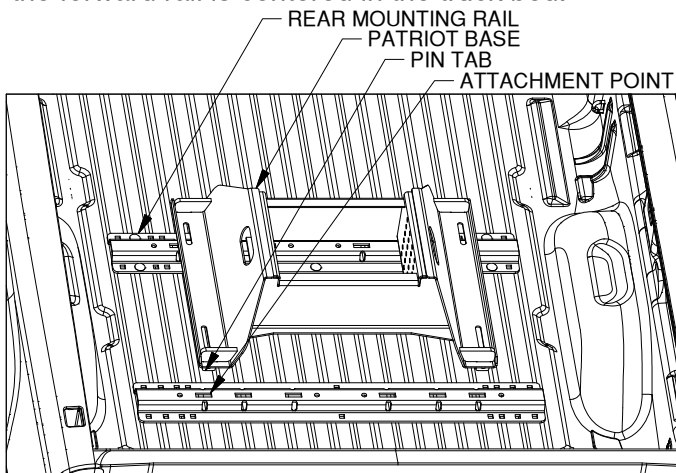

Figure C3: View into truckbed looking back at tailgate.
- 2. Position the forward mounting rail.** For this step the base which will be used in the mounting rails is required. Place a mounting rail into the truck bed in front of the rear mounting rail. Place the base over the rail attachment points and carefully lower it until the pin tabs pass through the attachment points on the rear mounting rail. Attach the forward mounting rail to the forward mounting points on the base. The base should rest flat against the top of the rails. See figure C3. With the base still attached ensure that the forward rail is centered in the truck bed.